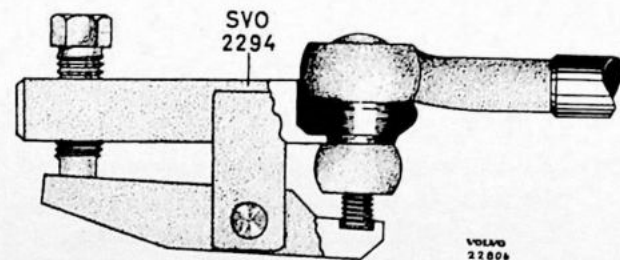

Fig. 11. Removing steering rod.
5. Remove the cotter pin and nut for the steering rod ball joint. Screw back the tensioning bolt on tool SVO 2294 and place the tool on the ball joint as shown in fig. 11. Press in the tool well and ensure that the thread in the ball joint enters the recess in the tool.